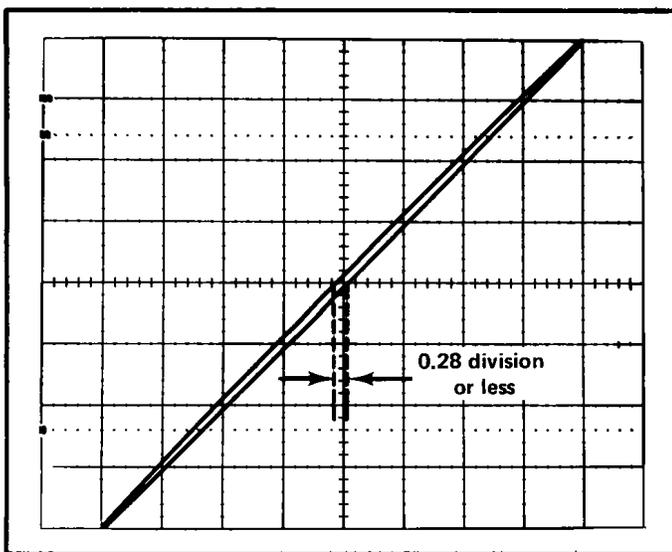

Fig. 5-1. Typical CRT display when checking X-Y phase shift.
e. CHECK—CRT lissajous display for an opening at the center vertical line of 0.28 division or less (indicates 2° or less phase shift; see Fig. 5-1).